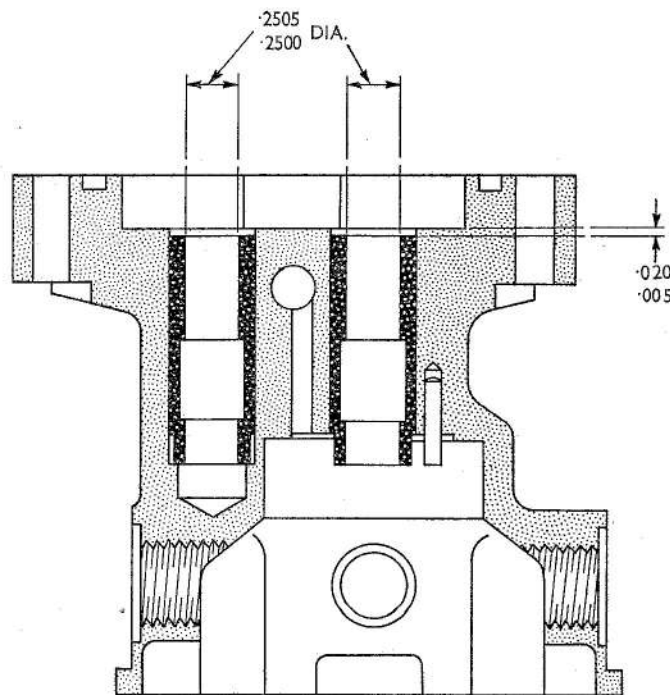

Fig. 2. Fitting replacement bushes in pump body
(2) Insert the new bronze bushes into bores of the pump body as shown in fig. 2. Ensure that the ends of the bushes are 0.005 to 0.020 in. below the pump body face. Lightly ream the bushes 0.2500 to 0.2505 in. diameter.
(5) Fit the sealing ring to the pump body, then fit the pump cover aligning the relief valve duct, and secure with the 2 BA bolts, washers and nuts; fully tighten the bolts evenly in diametrically opposed sequence.
(6) Check the assembly for freedom of rotation. If freedom is restricted, remove the pump cover and recheck clearances.
(8) Fit the non-return valve to the delivery side of the pump, then fit the remaining unions, plugs and sealing washers as shown on fig. 2.
(10) Assemble the gland spring, gland plate, gland seal and thrust plate to the gland sleeve, taking care to avoid nipping the gland seal between the thrust plate and the periphery of the gland sleeve. Compress the spring and insert the drive pin into the drive shaft.
(11) Fit the drive shaft to the bearing housing, locating the ball bearing in the housing recess.
(12) Fit the coupling and secure it with the split taper pin.
(13) Fit the drive shaft assembly to the pump, interposing the gasket, and secure with the service bolts T.100088. Submit the pump to the tests detailed in para. 22 onwards.
(15) Position the sealing ring at the inner end of the counterbore at the pump end of the gland housing, then insert the spring support washer.
(16) Fit the sealing ring to the gland sleeve, position the thrust collar and the spring on the sleeve, then locate the assembly, spring first, in the gland housing.
(17) Fit the drive pin to the coupling shaft, then position thimble TA.3056 over the motor end of the shaft. Assemble the thrust washer assembly and the shaft to the gland housing.
(18) Position the thrust plate over the coupling shaft flange, apply sufficient pressure to compress the spring and secure the assembly with the circlip.